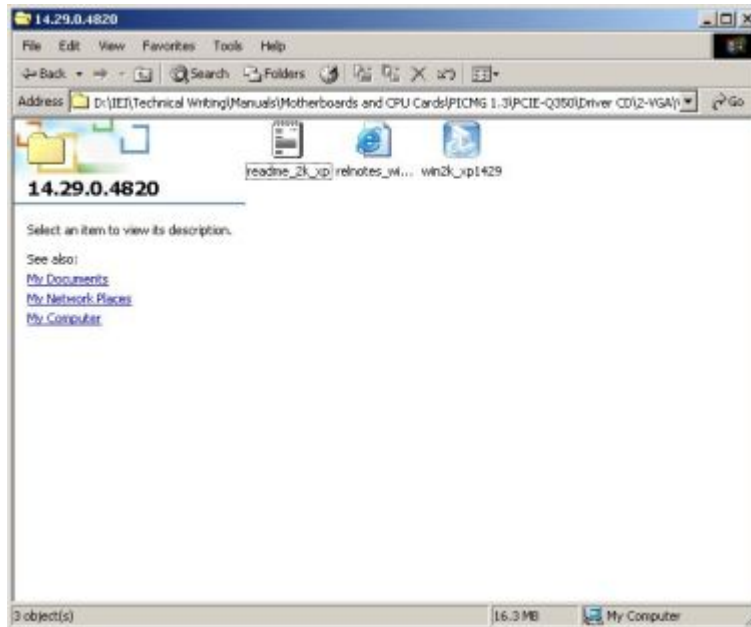

Figure 6-12: Intel® VGA Driver Setup Icon
Step 6: A new window appears. See **Figure 6-12**.
Step 7: Click on the VGA driver installation icon in See **Figure 6-12**.